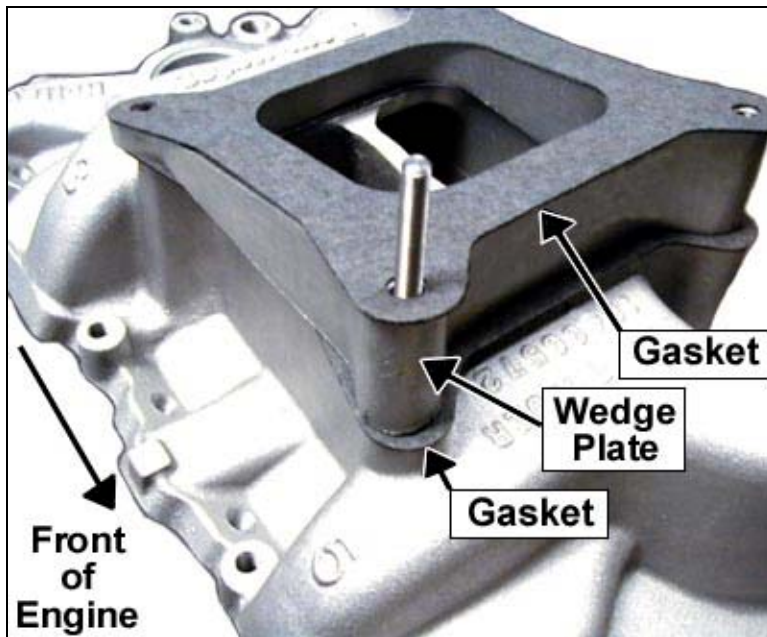

Figure 3
4. Place the new gasket on the intake manifold. Place the wedge plate on the intake manifold and then install another gasket on top of the plate. See Figure 3.